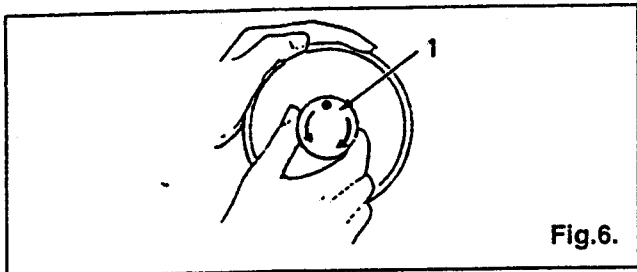

Fig. 6.
1. Stop motion needle by loosening stop-motion screw (1), Fig. 6. Hold hand wheel with left hand and turn stop-motion screw toward you with right hand.